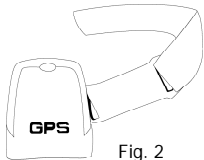

Fig. 2
- If the armband is not attached, slide plastic attachment with elastic strap into the slot of the S+D Sensor as shown.(Fig. 2)